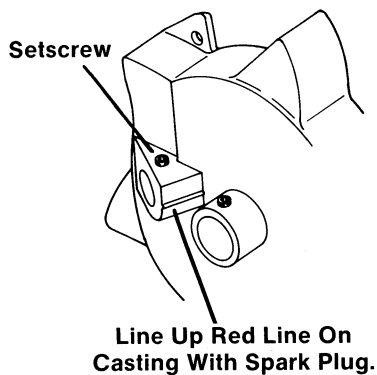

FIG. 12A
2. Loosen setscrew (Fig. 12A), located above the spark plug in the burner casting, and carefully pull the spark plug from the burner, leaving the wire connected to the plug.